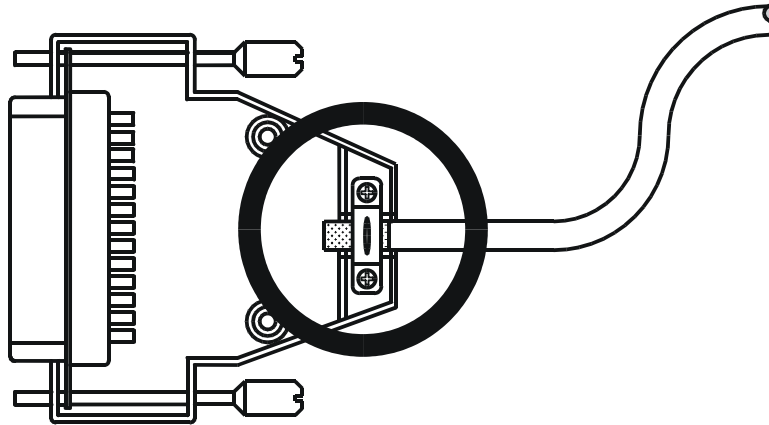

Fig. 2: Shielding of SUB-D connectors in conformity with EMC standards.
- Only use metallized connectors, e.g. SUB-D with metallized housing. Make sure that the strain relief is directly connected with the housing here as well (see Fig. 2).